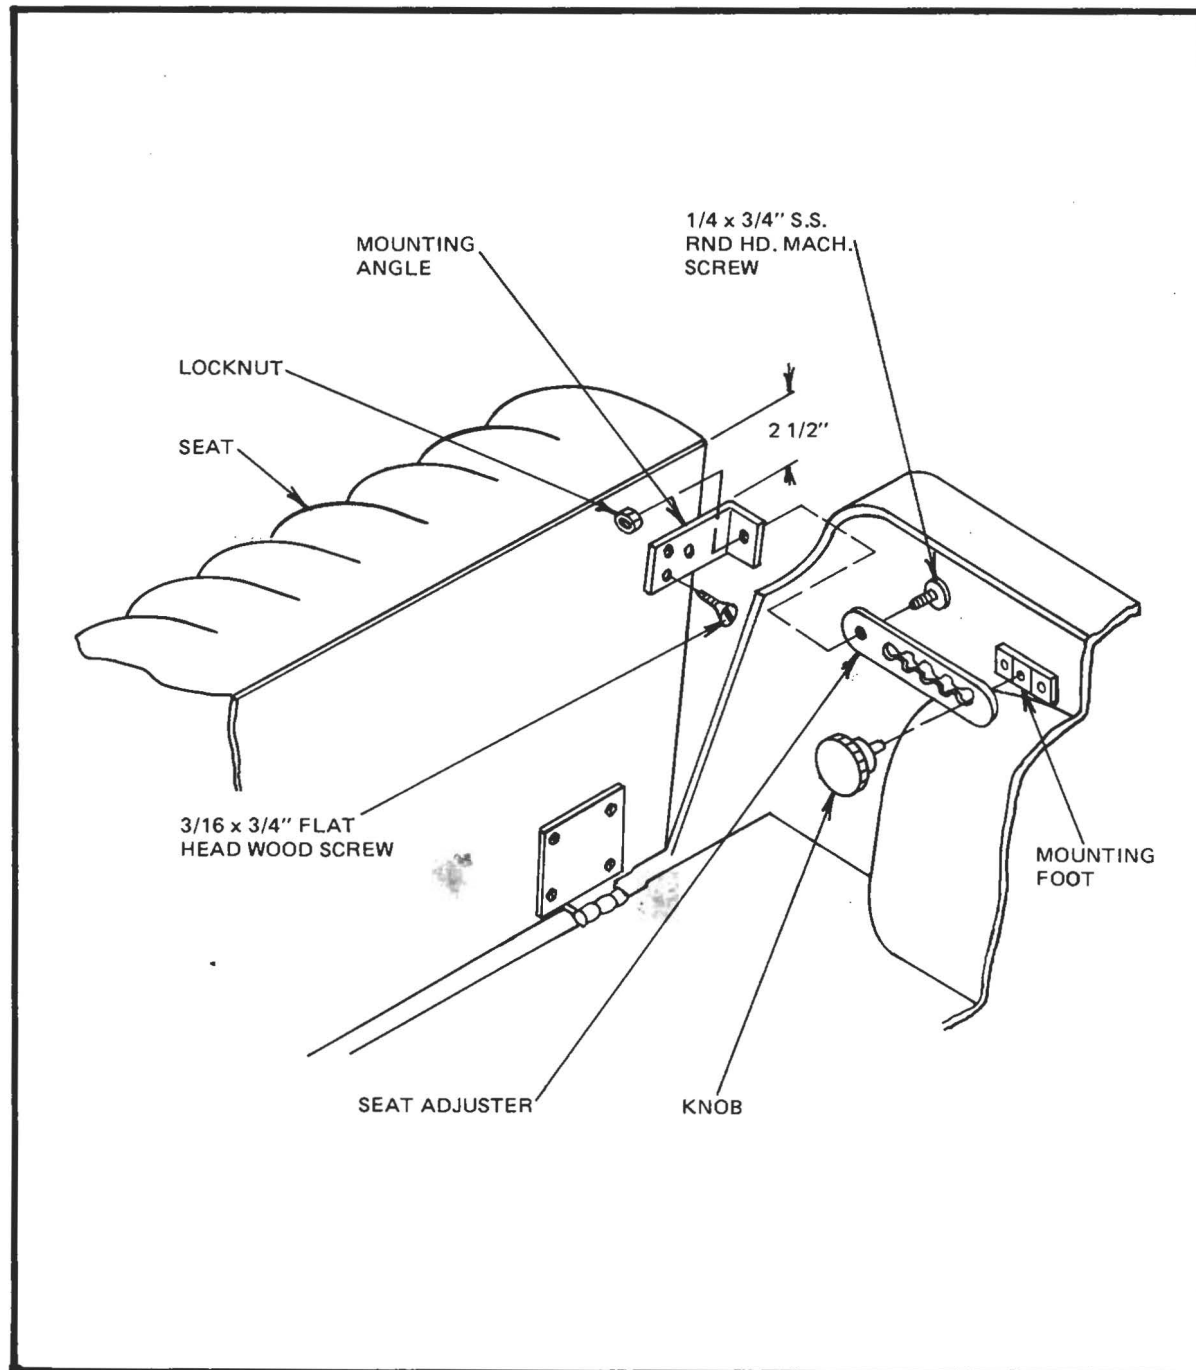

Figure 63
- ☐ Position mounting foot on body keeping adjuster parallel to top of body. Mark hole locations and secure with No. 10 x 1" stainless steel phillips oval head self-tapping screws. (Figure 63).